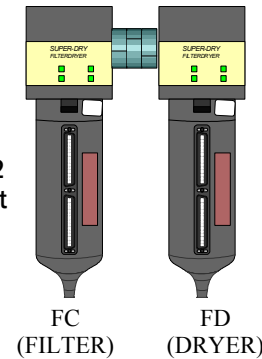

Fig. 1
- It is highly recommended to install a particulate filter (FC1/2 or FC1(MB)) before the desiccant dryer. The coalescer filter will prevent water, rust and oil from contaminating the desiccant (fig.1).